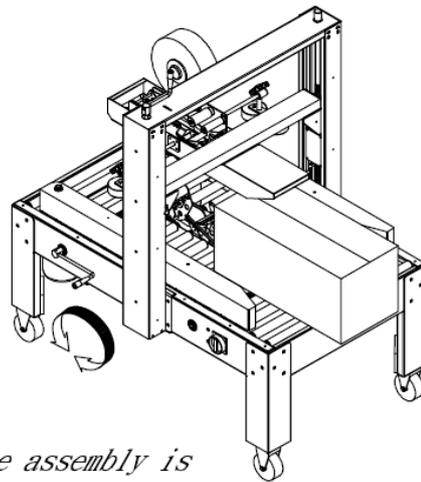

Figure 2-2
2. Put the carton toward the centering guide at the exit that turns the driven belt adjustable handle then adjusted to wheel. Please refer to Figure 2-2.